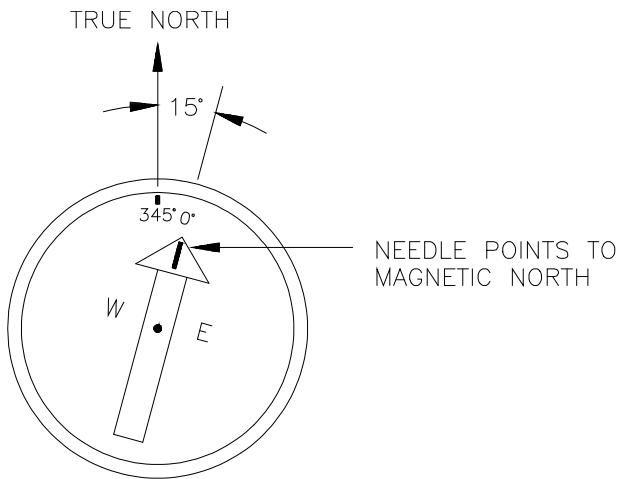
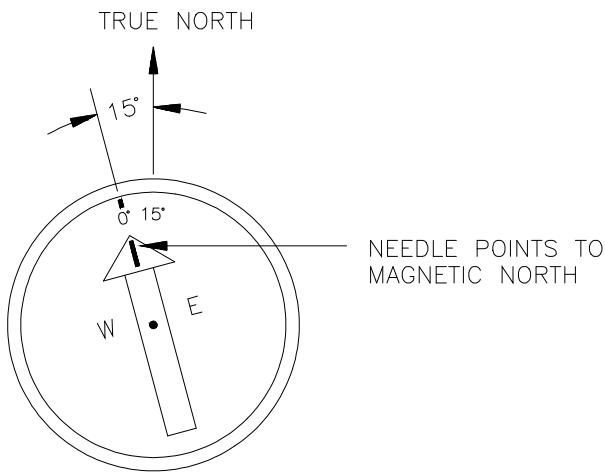

FIGURE A-2. A declination angle East of True North (positive) is subtracted from 360 (0) degrees to find True North
FIGURE A-3. A declination angle West of True North (negative) is subtracted from 0 (360) degrees to find True North
Declination angles are always subtracted from the compass reading to find True North. A declination angle East of True North is reported as positive a value and is subtracted from 360 (0) degrees to find True North as shown in FIGURE A-2. A declination angle West of True North is reported as a negative value and is also subtracted from 0 (360) degrees to find True North as shown in FIGURE A-3. Note that when a negative number is subtracted from a positive number, the resulting arithmetic operation is addition.